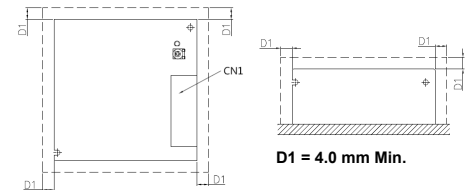

Fig. 4. Assembly Reference
- For safety reason, please ensure the mounted device is kept at  $\geq 4\text{mm}$  safety distance at all sides from other components and equipments (Refer to Fig. 4).